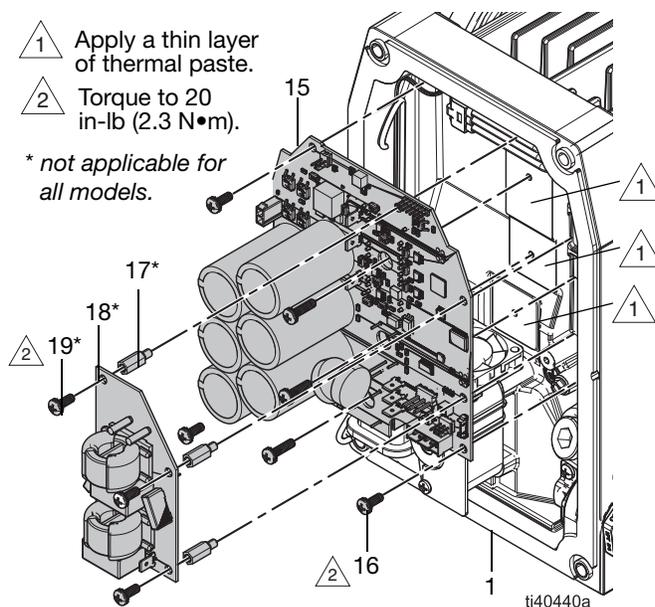

FIG. 11: Control Board and Filter Board
See FIG. 11.
2. If needed, apply a thin layer of thermal paste where indicated in FIG. 11.
3. Hold wires away from the stator housing (1) and insert the control board (15) into the stator housing.
4. Hold the control board (15) in place. At the same time, install the control board fasteners (16). Torque to 20 in-lb (2.3 N•m).
5. If applicable, install spacers (17), filter board (18), and fasteners (19). Securely tighten the fasteners (19).
6. If applicable, connect the filter board (18) power brown cable to L1 and blue cable to L2 on the control board. See **Electrical Schematics**, page 36.
7. Connect all wires to the control board (15) and filter board (18, if applicable). See **Electrical Schematics**, page 36.